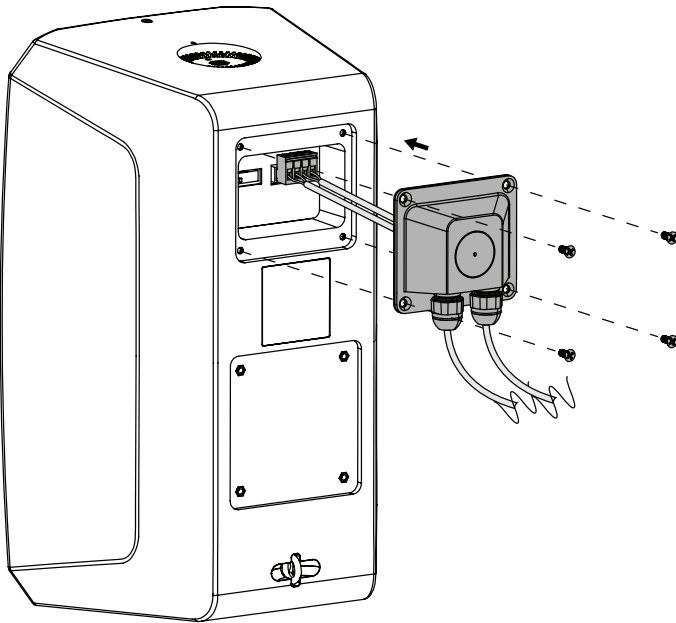

Figure 17
- Slide the weatherproof back plate along the loudspeaker wire until the plate is flush with the recessed cover opening.(Figure 17)
- Use the included screws and a Phillips head screwdriver to affix the back plate to the loudspeaker.(Figure 17)